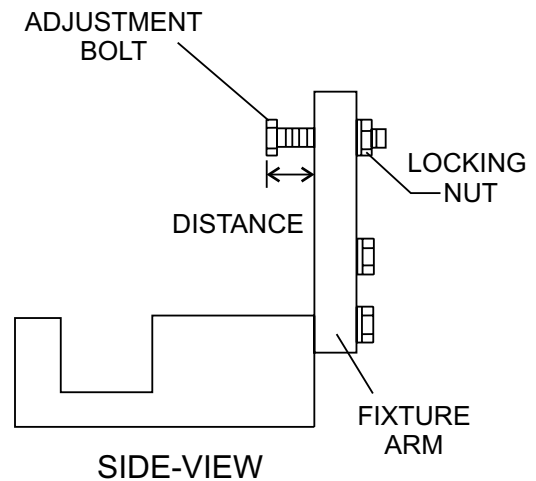

Figure 44. Trowel Arm Adjustment Tool Side View
Shown in (Figure 44) is the adjustment fixture with a trowel arm inserted. As each trowel arm is locked into the fixture, the arm bolt is adjusted to where it contacts a stop on the fixture. This will consistently adjust all of the trowel arms, keeping the finisher as flat and evenly pitched as possible.
5. Adjust the bolt "distance" shown in Figure 44 to match one of the arms. The other arms will be adjusted to match this distance.